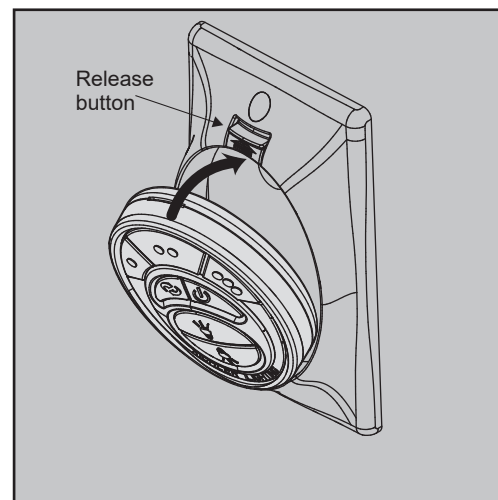

Fig. 25
Step 1. Insert the transmitter into the wall plate by inserting the bottom of the transmitter first and then press the top of the transmitter into the pocket. The transmitter will fully function from this location or you can remove the transmitter and use as a "Hand Held" device. **(Fig. 25)**